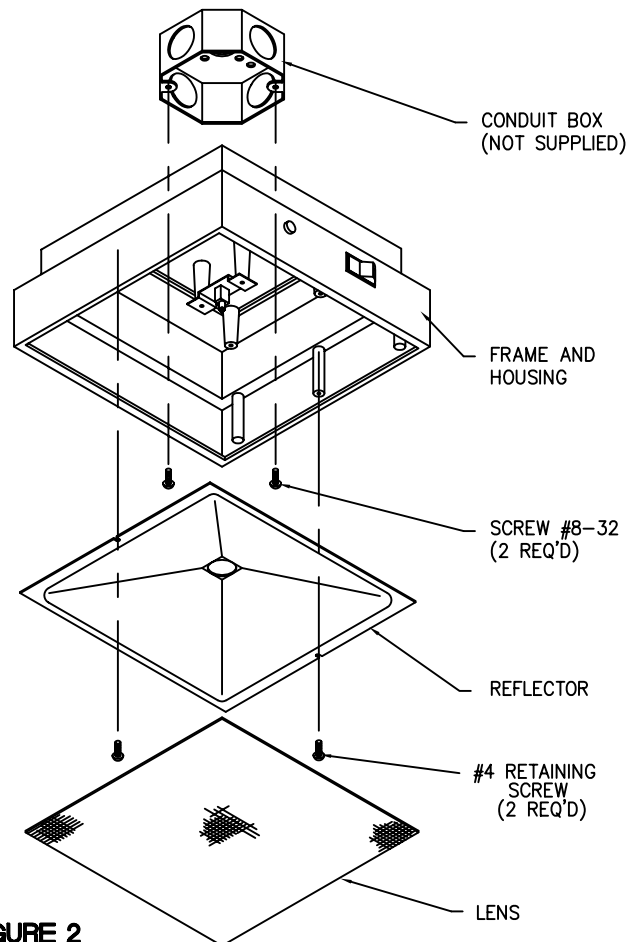

FIGURE 2
3. Remove reflector by unfastening two (2) #4 retaining screws. (See figure 2)